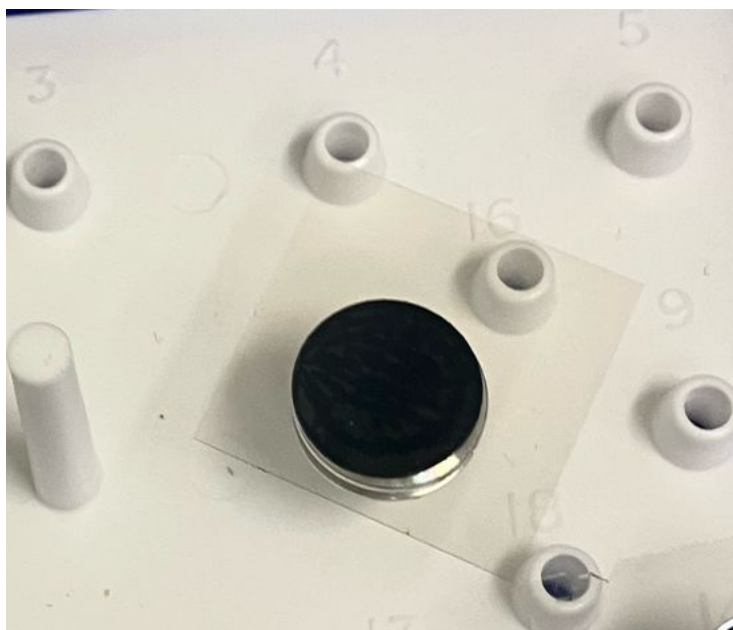

Figure 3. Mounting coverslips on SEM stubs.
23. Place an adhesive carbon tab on an SEM stub and place the ITO coverslip on it with the sections facing up (Fig.3).